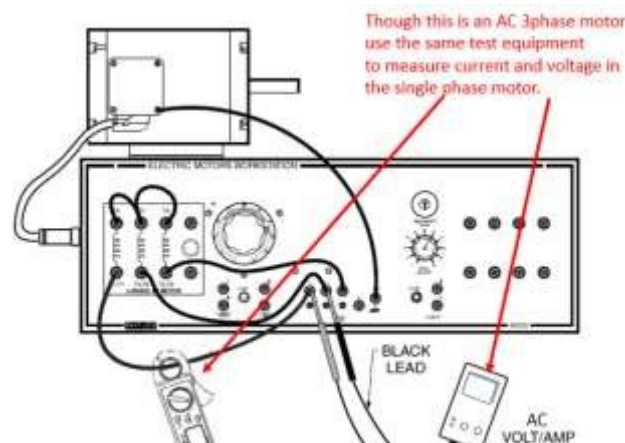

Figure 4: Test equipment to measure loading effect
5. Secure a clip-on ammeter and attach around a power lead feeding the motor (Figure 4).